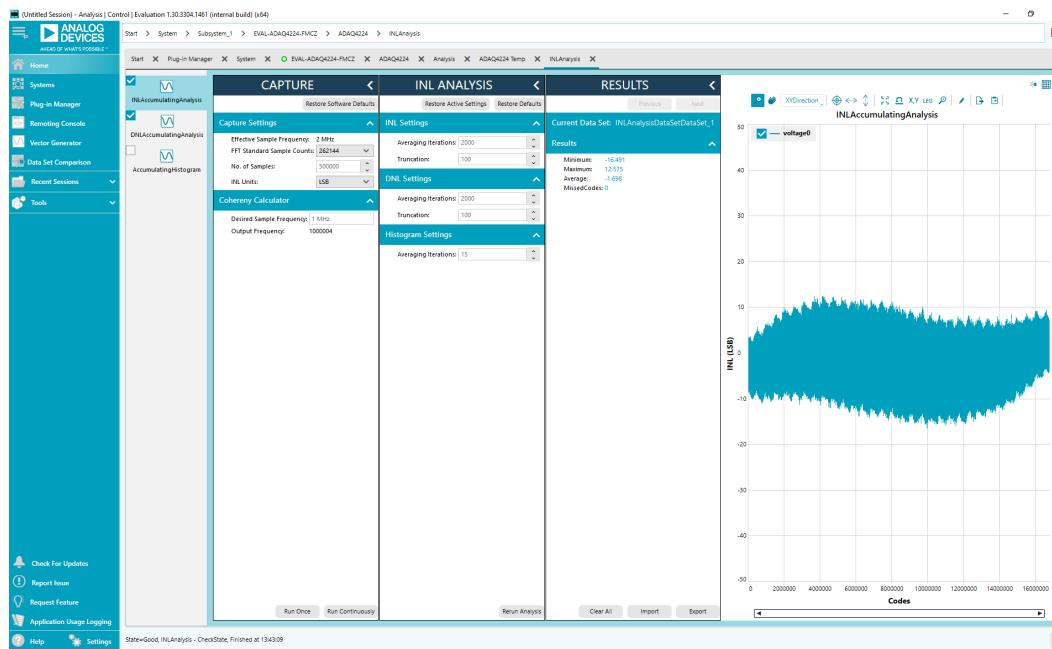
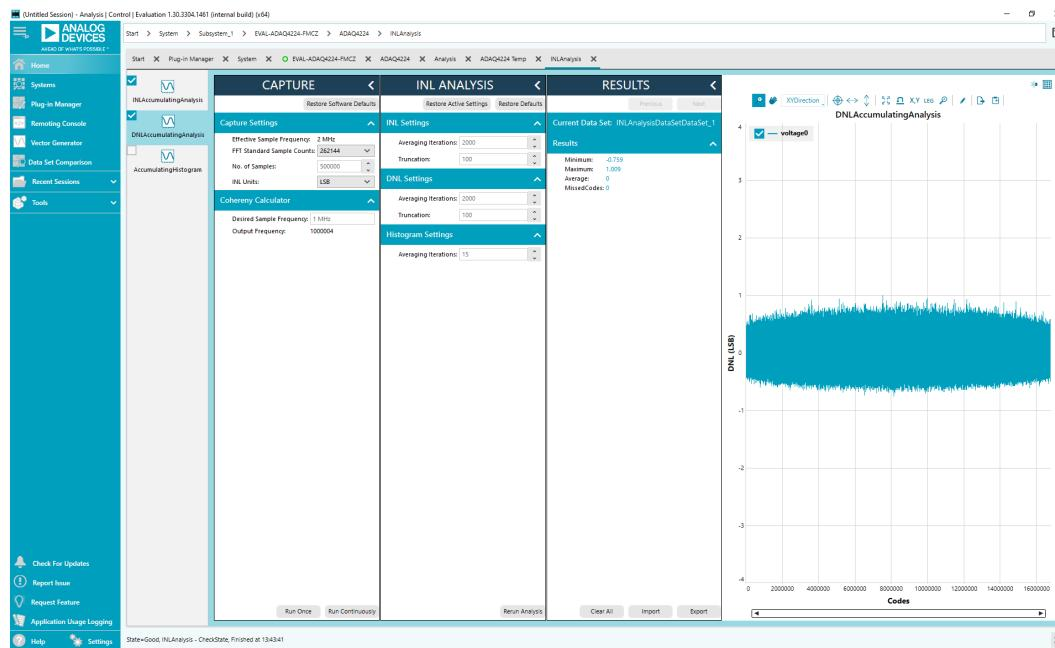

Figure 16. INL Analysis Tab, INL View
Figure 17. INL Analysis Tab, DNL View
7. For INL and DNL analysis, go back to the **Chip** view tab and click **Proceed to INL Analysis** button. On the **CAPTURE** and **INL Analysis** pane, set the sampling frequency, no. of samples, no. of iterations, truncation, and units. Before doing an INL analysis, modify the EVAL-ADAQ4224-FMCZ and install R67 and remove R59. This connects the VSS_FDA pin of the ADAQ4224 to the -1 V supply. After the INL capture is done, the user can view the results in then INL and DNL views, as shown in Figure 16 and Figure 17.
The INL Analysis tab allows the user to showcase the linearity performance of the ADAQ4224. Before performing any measurements, set the **Capture Settings** and **INL Settings** in the **CAPTURE** and **INL ANALYSIS** pane, respectively, as shown in Figure 16 and Figure 17. To perform linearity test, apply a +0.5 dBFS amplitude sinusoidal signal from a precision signal source at the VIN+ and VIN- SMA inputs of the EVAL-ADAQ4224-FMCZ board. VSS_FDA also needs to be connected to the on-board -1 V supply.